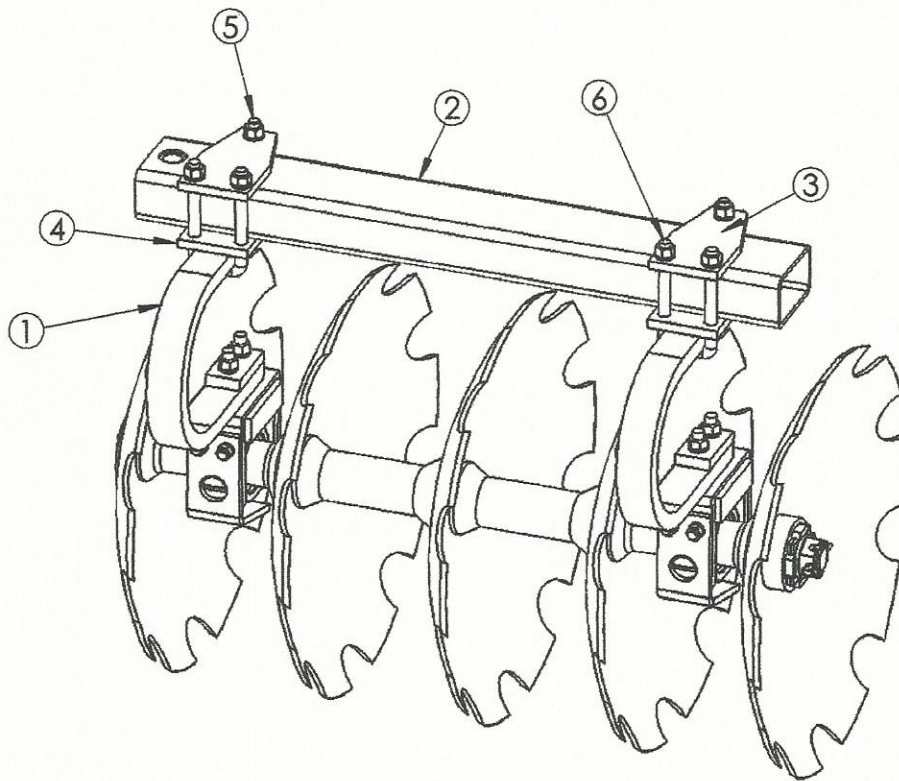

Figure 7
## F) To Attach Disc Gangs with Spring Bearing Hangers (Refer to Figure 7)
- 1) Disc Gangs are assembled from the factory. Attach Spring Bearing Hangers (1) to Gang Frame (2) as shown in Figure 7 below. The Spring Bearing Hanger Attaching Bundle consists of a Top Plate (3), Bottom Plate (4), one  $\frac{5}{8}$  x 6" Hex Bolt (5), and one  $\frac{5}{8}$ " U-Bolt (6), with  $\frac{5}{8}$ " Lockwashers and Hex Nuts.